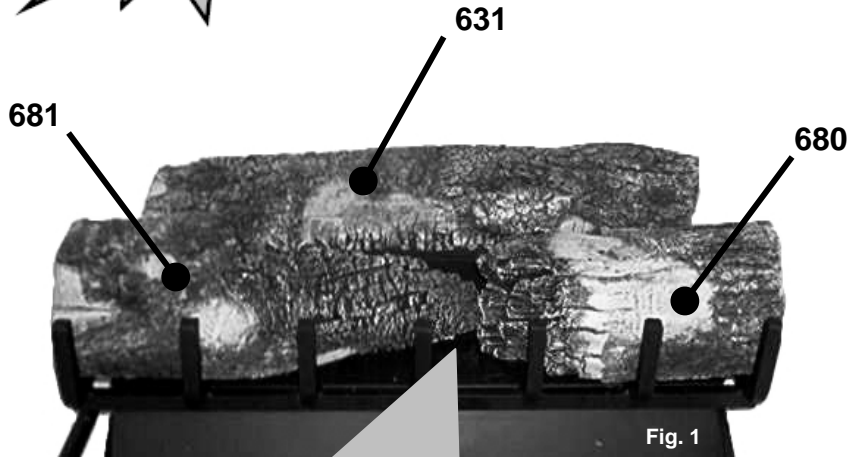

Fig. 1
- ◆ Place logs as shown in Figure 1.